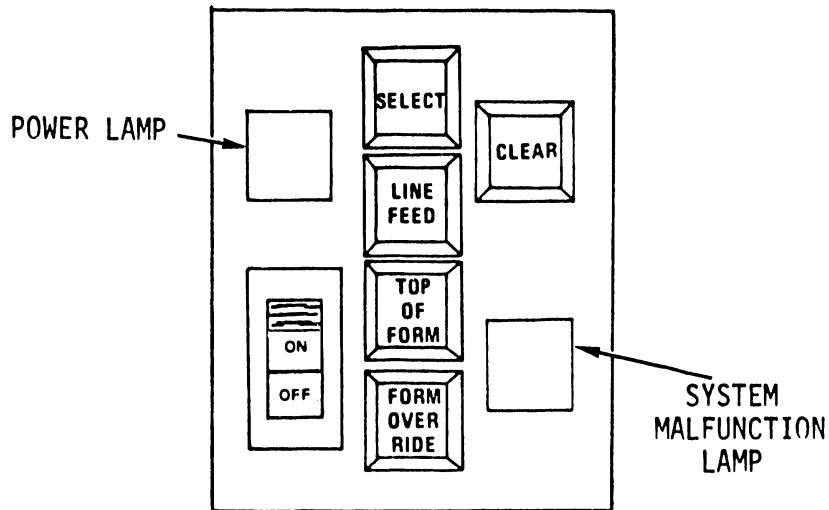

FIGURE 2-5 CONTROL PANEL
2.6 OPERATOR CONTROLS AND INDICATORS (REFER TO FIGURE 2-5)